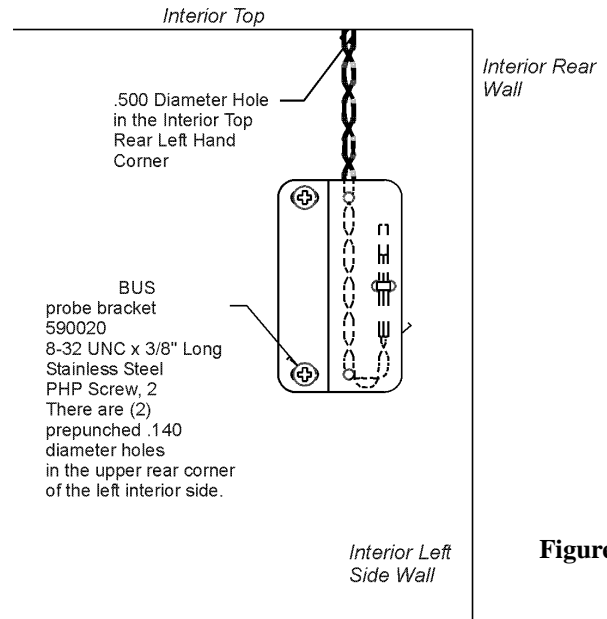

Figure 5-4
- Locate the 0.500" pre-punched hole in the upper left hand back corner of the chamber ceiling. Remove the tie wrap securing the coiled probe/solenoid harness. Uncoil the probe lead and run the probe tip (approximately 12") down through 0.500" porthole (Figure 5-4).
- Tap #8-32 the two pre-punched holes located on the interior left wall of the freezer. Mount the bracket. Figure 5-4 shows the Back-Up probe mounted on the interior left side wall of the freezer.